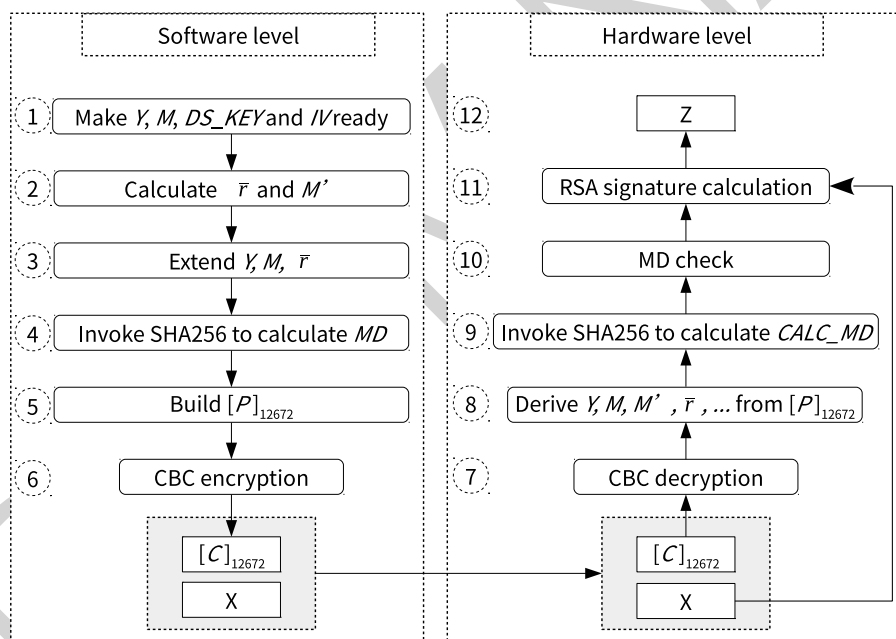

Figure 15-1. Software Preparations and Hardware Working Process
The left side of Figure 15-1 lists preparations required by the software before the hardware starts RSA signature calculation, while the right side lists the hardware workflow during the entire calculation procedure.
1. The software preparation (left side in the Figure 15-1) is a one-time operation before any signature is calculated, while the hardware calculation (right side in the Figure 1-1) repeats for every signature calculation.
Users need to follow the steps shown in the left part of Figure 15-1 to calculate C . Detailed instructions are as follows:
1. Decryption: Step 7 and 8 in Figure 15-1
The decryption process is the inverse of Step 6 in figure 15-1. The DS peripheral will call AES accelerator to decrypt C in CBC block mode and get the resulted plaintext. The decryption process can be represented by $P = \text{AES-CBC-DEC}(C, DS_KEY, IV)$, where IV (i.e., $[IV]_{128}$) is defined by users. $[DS_KEY]_{256}$ is provided by HMAC module, derived from $HMAC_KEY$ stored in eFuse. $[DS_KEY]_{256}$, as well as $[HMAC_KEY]_{256}$ are not readable by the software.
2. Check: Step 9 and 10 in Figure 15-1
The DS peripheral will perform two checks: MD check and padding check. Padding check is not shown in Figure 15-1, as it happens at the same time with MD check.
3. Calculation: Step 11 and 12 in Figure 15-1